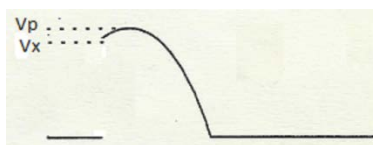

Figure 2. Firing angle waveform
7. Decrease the gate resistance such that the SCR is fired as shown in Figure 2.